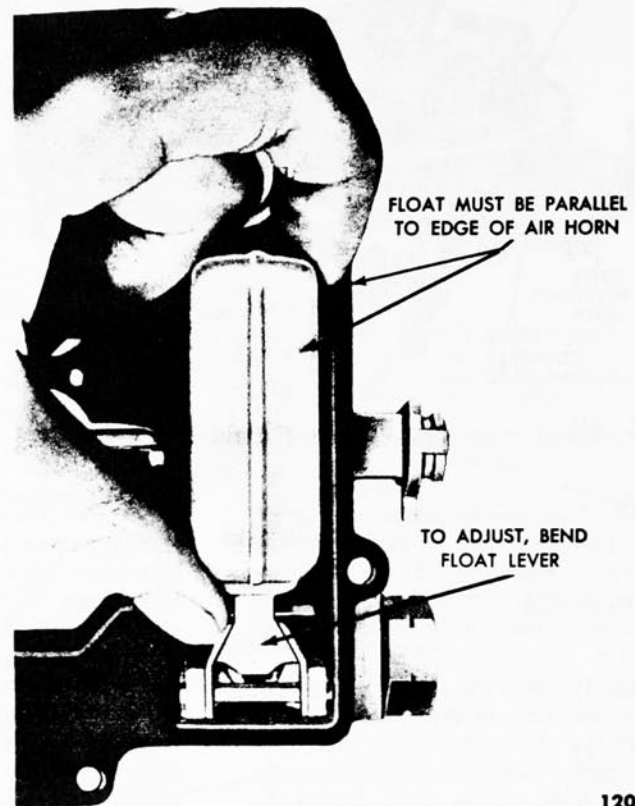

FIG. 46—Float Alignment
1. Sight down the side of each float shell to determine if the side of the float is parallel to the outer edge of the air horn casting (Fig. 46).